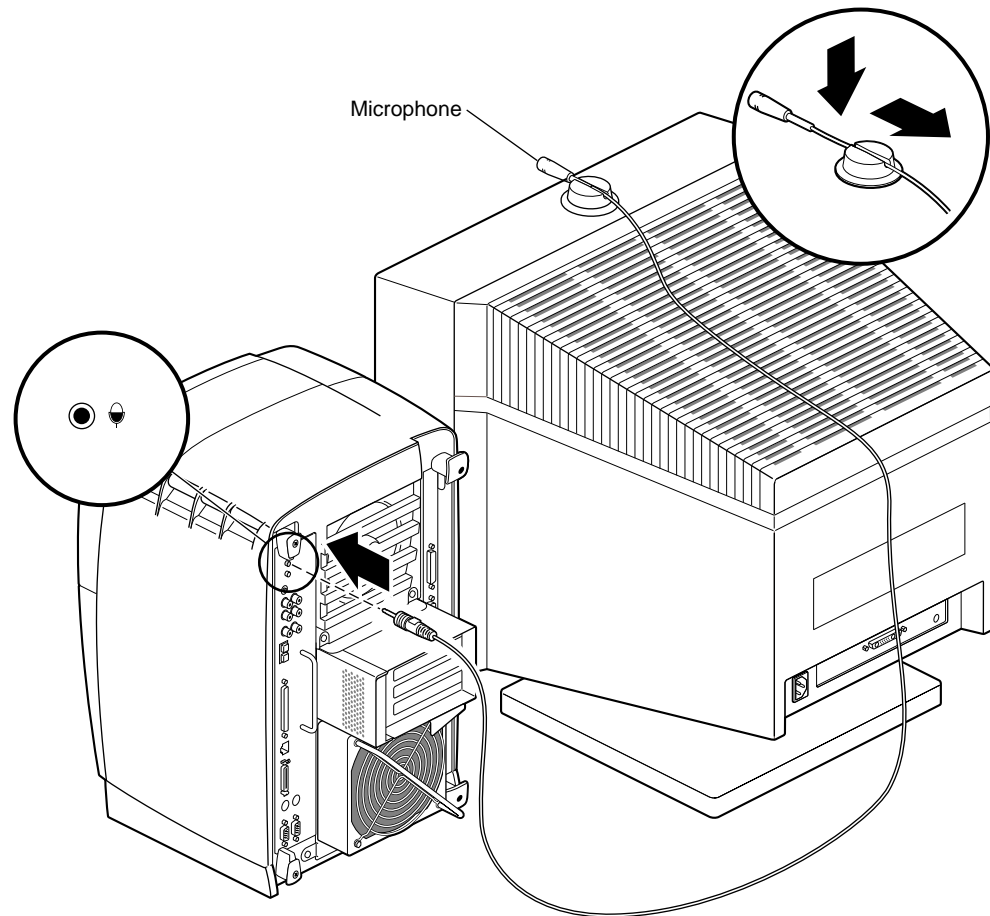

Figure 6-15 Installing the Microphone
2. Slide the microphone into the base. See Figure 6-15.